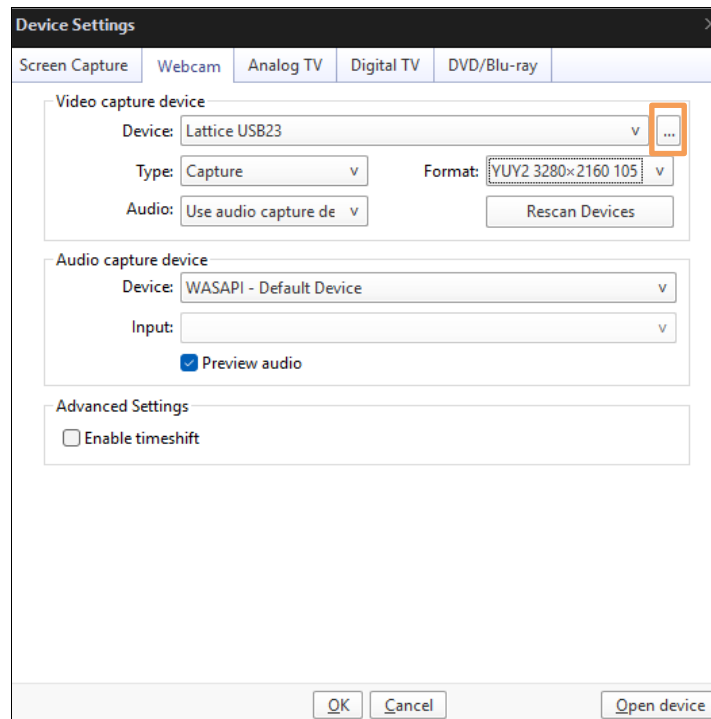

Figure 7.15. Camera Control Setting in PotPlayer 4
- (Optional) To adjust exposure, re-open **Device Settings**, as shown in the previous steps. Then, click the triple-dot menu to show the **Camera Control** menu (Figure 7.15).